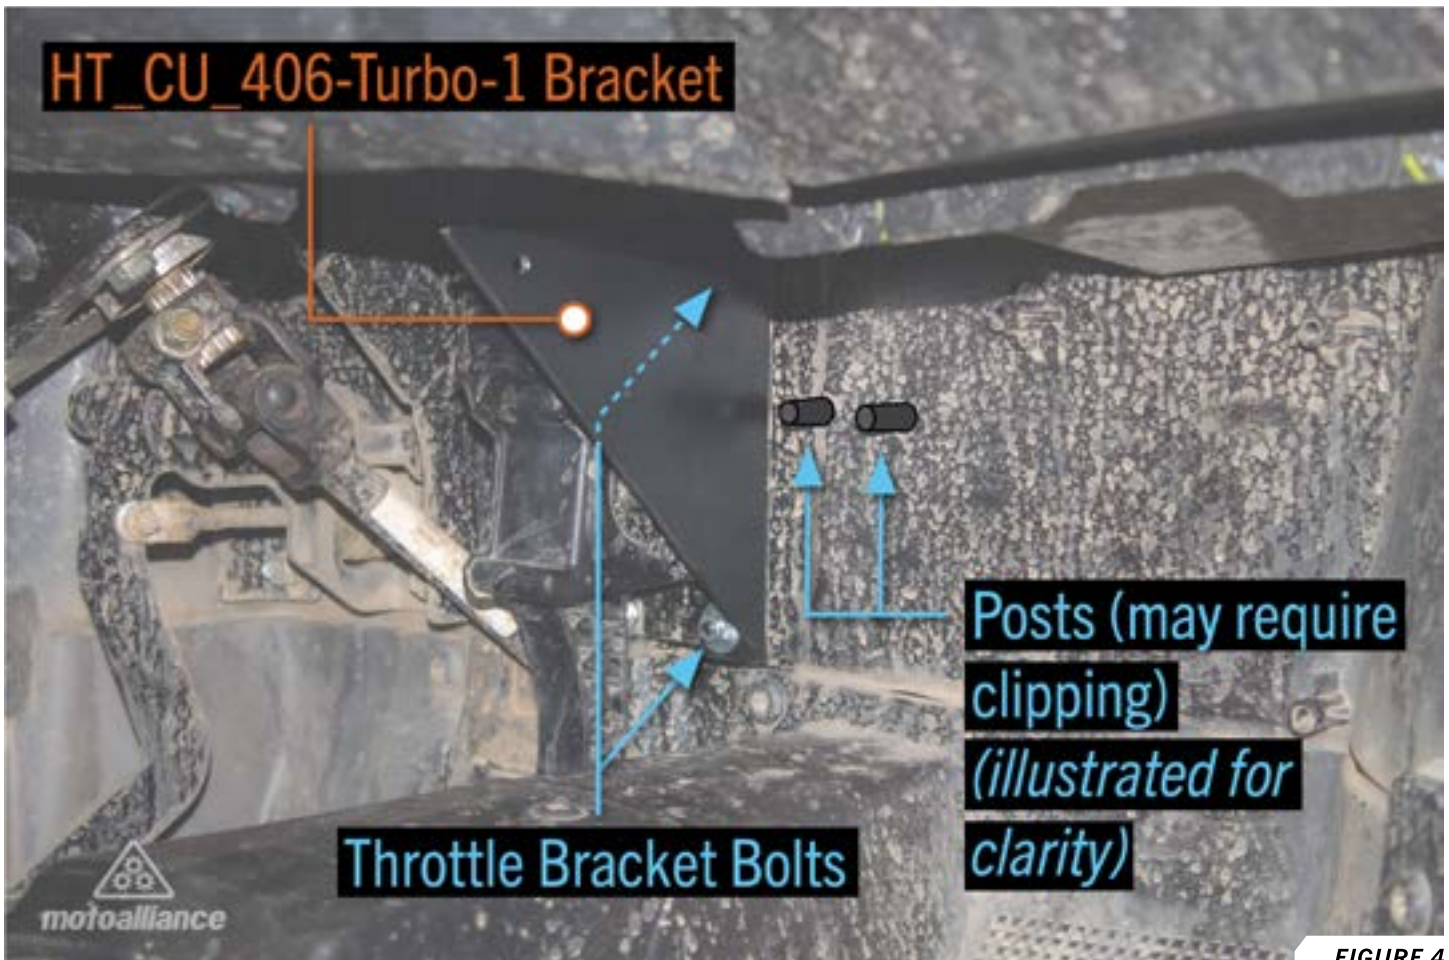

FIGURE 4
5. Mount the HT_CU_406-Turbo-1 bracket onto the throttle bracket bolts on your machine. Some posts might need to be clipped to make the heater unit fit. *FIGURE 4*